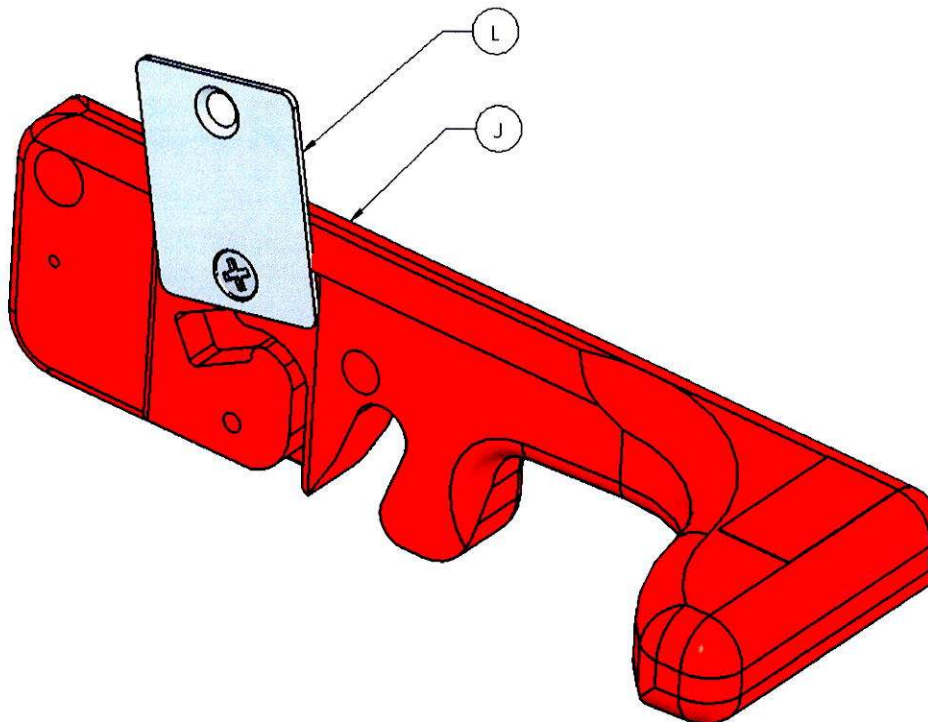

FIGURE 3: CABLE ROUTING THROUGH LEVER ARM GROOVE
9. Remove the Cable Panel (F/N L) from the Lever Arm (F/N J) and retain the hardware for reuse (Figure 3).